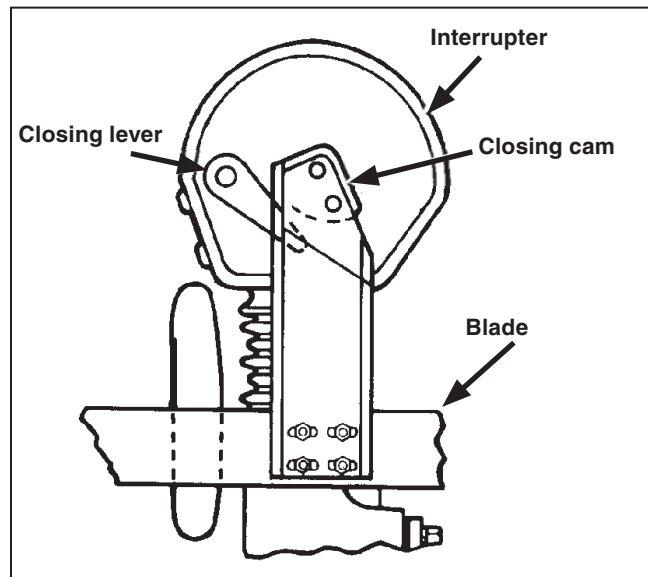

Figure 30. The blade assembly moving in the closing direction.
- (b) As the blade assembly moves in the closing direction, each blade-closing cam must make positive engagement with its respective interrupter-closing lever. See Figure 30.